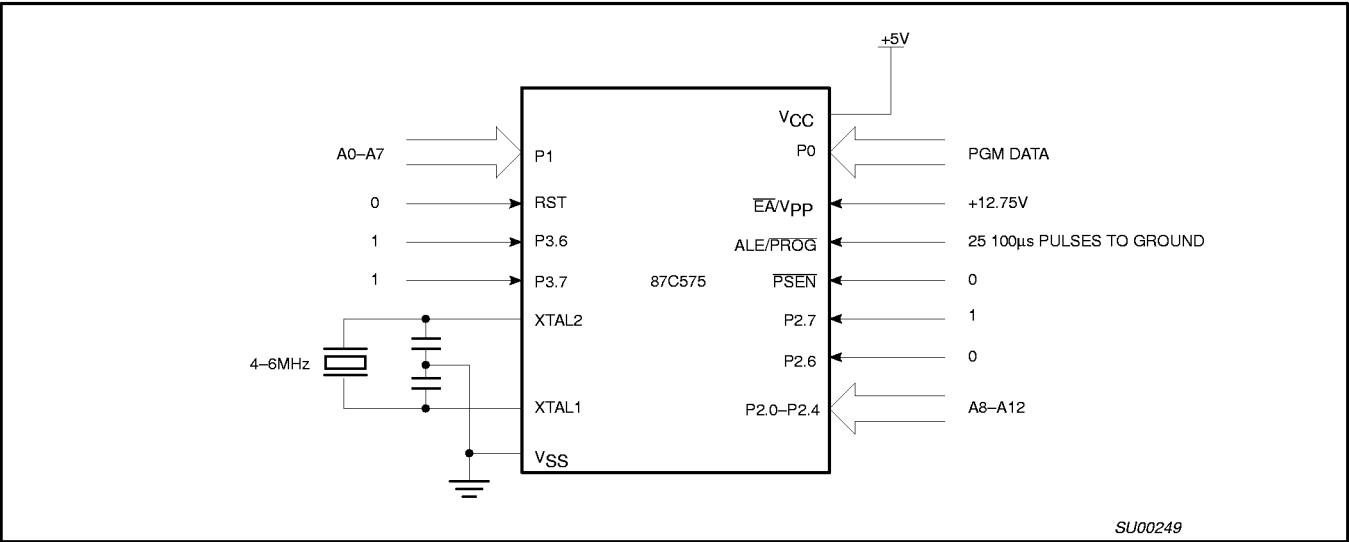
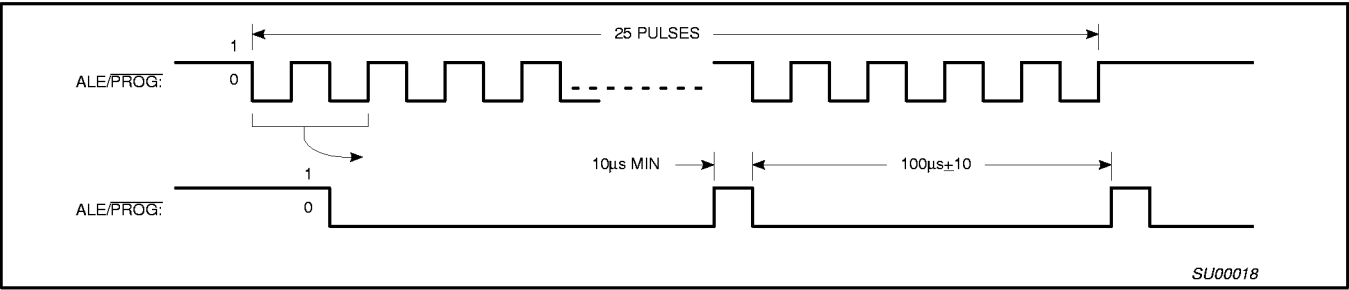
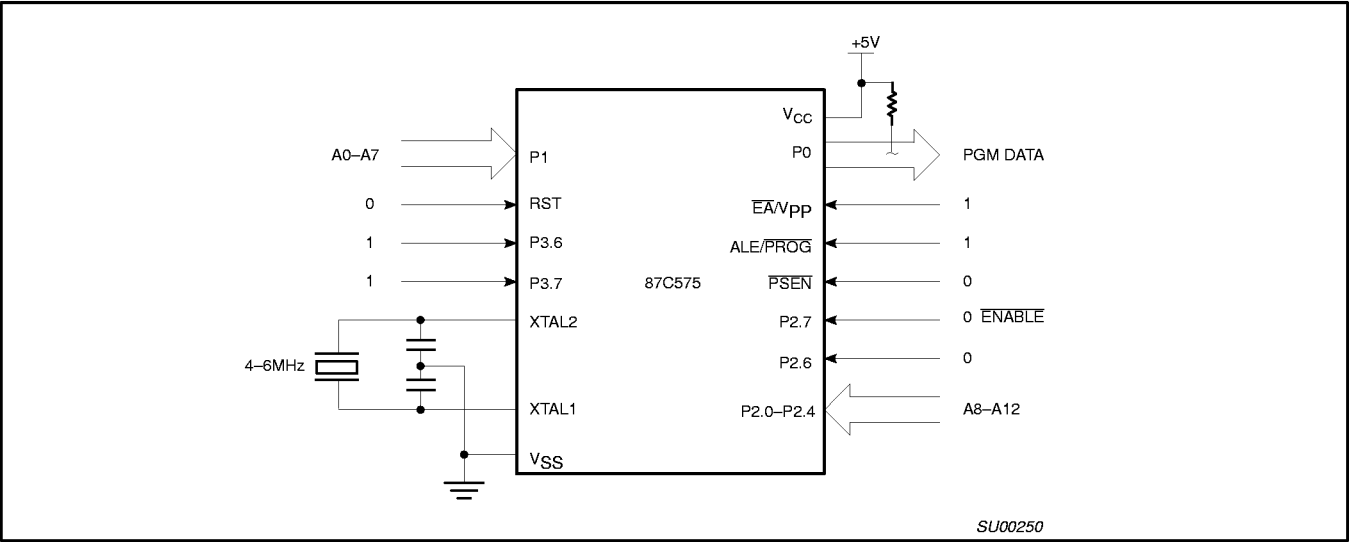

Figure 34. Programming Configuration
Figure 35. PROG Waveform
Figure 36. Program Verification
Table 3 shows the logic levels for reading the signature byte, and for programming the program memory, the encryption table, and the security bits. The circuit configuration and waveforms for quick-pulse programming are shown in Figures 34 and 35. Figure 36 shows the circuit configuration for normal program memory verification.
The setup for microcontroller quick-pulse programming is shown in Figure 34. Note that the 87C575 is running with a 4 to 6MHz oscillator. The reason the oscillator needs to be running is that the device is executing internal address and program data transfers.
The address of the EPROM location to be programmed is applied to ports 1 and 2, as shown in Figure 34. The code byte to be programmed into that location is applied to port 0. RST, PSEN and pins of ports 2 and 3 specified in Table 3 are held at the 'Program Code Data' levels indicated in Table 3. The ALE/PROG is pulsed low 25 times as shown in Figure 35.
If security bit 2 has not been programmed, the on-chip program memory can be read out for program verification. The address of the program memory locations to be read is applied to ports 1 and 2 as shown in Figure 36. The other pins are held at the 'Verify Code Data' levels indicated in Table 3. The contents of the address location will be emitted on port 0. External pull-ups are required on port 0 for this operation.
* FOR PROGRAMMING VERIFICATION SEE FIGURE 34.
FOR VERIFICATION CONDITIONS SEE FIGURE 36.